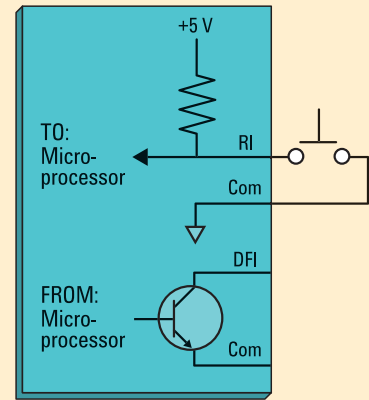

FIGURE 2: Schematic for remote inhibit and discrete fault indicator within the power supply
Remote inhibit (RI) is an input to a power supply that disables the output when the RI terminal is pulled low (see Figure 2). This shorts the normally open switch and turns off the power supply output. You can use the remote inhibit feature on your power supply to respond to or detect other conditions as well, such as opening a cabinet door or a fault from another device in the system.